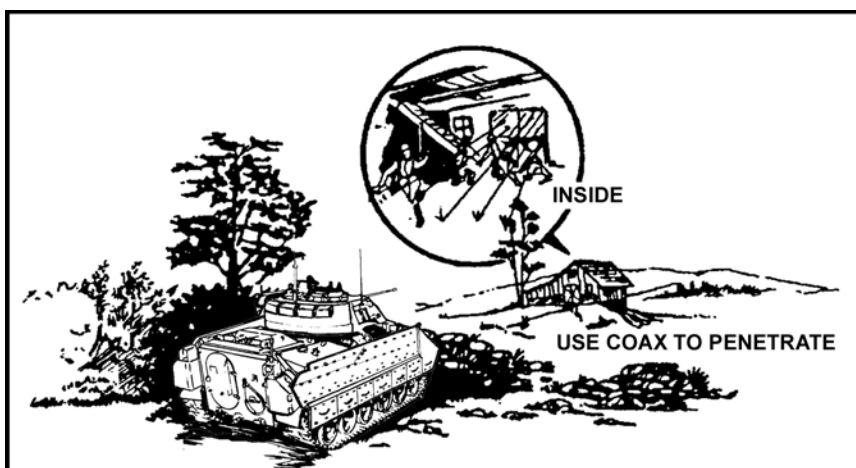

Figure 6-40. Firing through concealment.
b. **Firing through Concealment.** The gunner can use the coax machine gun to penetrate most of the means used to conceal dismounted enemy infantry, including trees, hasty barricades, or lightly constructed buildings. He treats each such means as an individual point target (Figure 6-40).